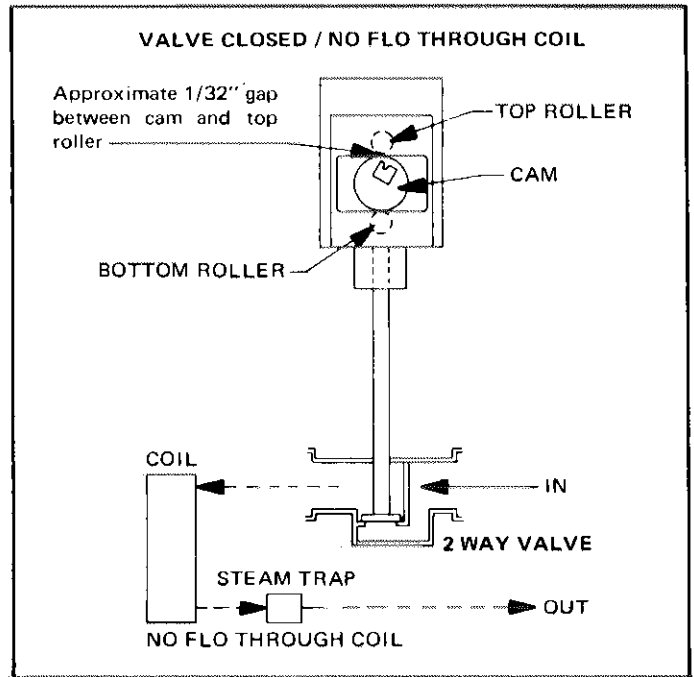

FIGURE 52
- 2 - Remove wire from LO terminal on EA3. Put jumper across C and F terminals on motor. Motor shaft should rotate counterclockwise, lowering valve stem. Refer to Figure 52.